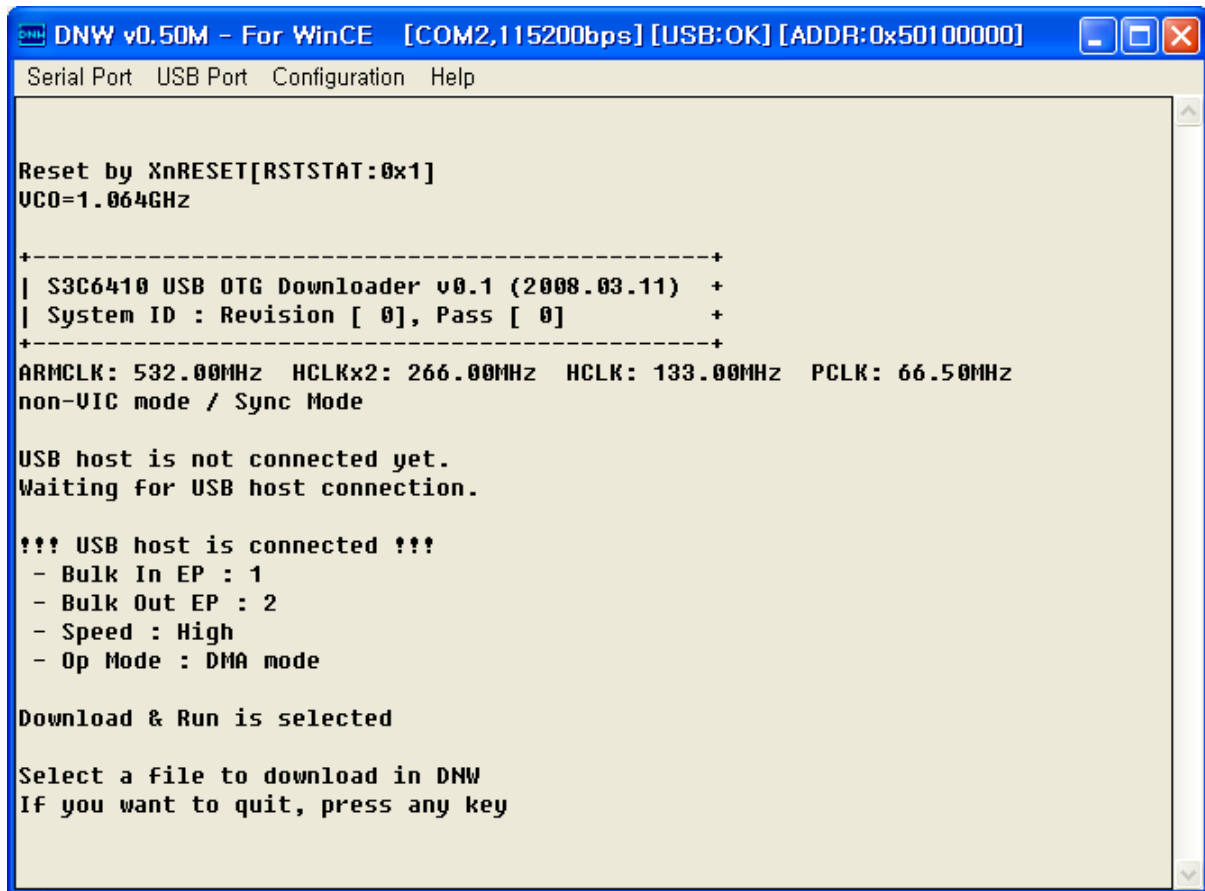

Figure 5-3 DNW Window after Board Power ON
- On the Serial Port menu, click Connect. Switch ON the board and then press any key. The DNW window appears as shown in figure 5-3.